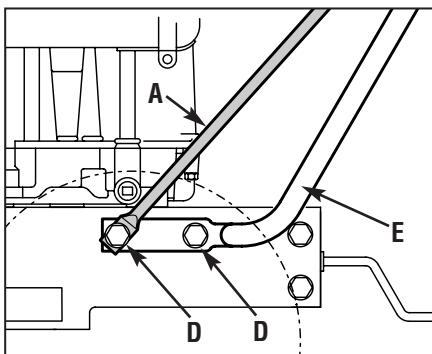

Figure 2-2: Attach handlebars and struts to engine deck.
the air cleaner cover and lift the other handlebar upward. Rotate the handlebars over the engine and position the handlebar ends (E, Figure 2-2) against the sides of the engine deck.
NOTE: Four screws (D, Figure 2-2) are used to connect the handlebars to the engine deck. The screws thread into lock nuts welded to the back sides of the deck.
3. Swing the handlebar struts (A, Figure 2-2) forward and align the handlebar ends (E, Figure 2-2) with the holes in the engine deck. Loosely install two 5/16"-18 x 3/4" hex flange screws (D) into the rear holes.
4. Align the loose ends of the handlebar struts (A, Figure 2-2) over the front holes in the handlebar ends. Attach the struts and handlebars with two more 5/16"-18 x 3/4" hex flange screws. Securely tighten all four screws.